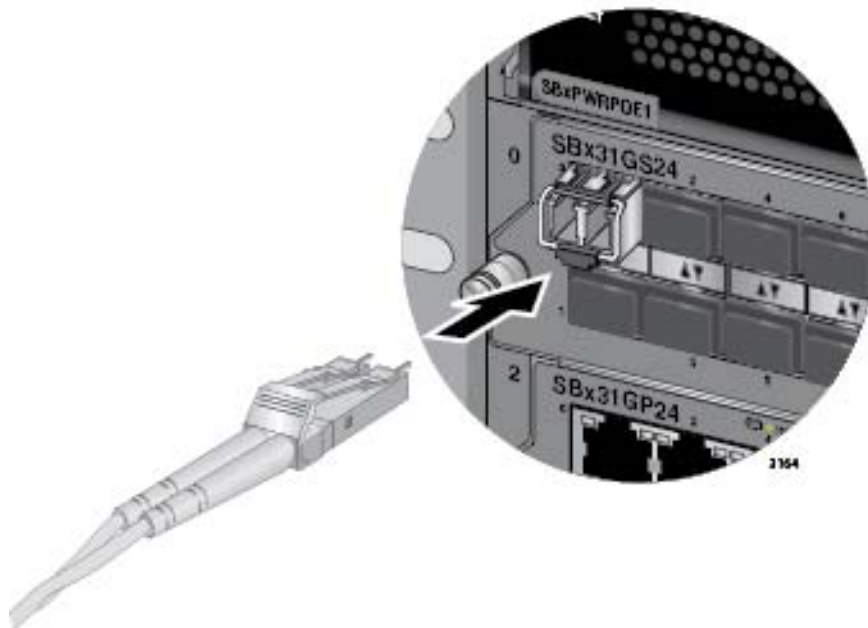

Figure 88. Attaching a Fiber Optic Cable to an SFP Transceiver in the AT-SBx31GS24 Line Card
6. Connect the fiber optic cable to the port on the transceiver, as shown in Figure 88. The connector should snap into the port.